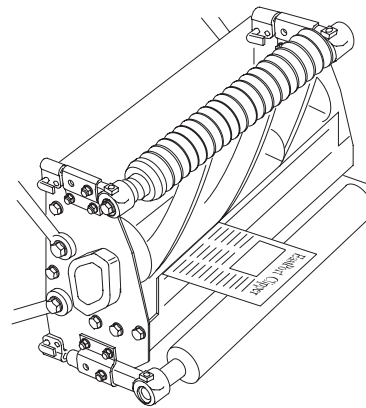

Figure 4
2. Set the cutting unit as shown in Figure 4. Do not rest the cutting unit on the bedknife adjusting knob as this will affect the reel to bedknife clearance. Place a block of wood under the round cross tube to hold the adjustment knob above the surface.
4. Insert a long strip of dry newspaper between the reel and bedknife (Fig. 4) at either end of the bedknife, and rotate the reel by hand. The paper should be cleanly cut. Repeat this procedure at other end of the reel. If the paper does not cut cleanly, tighten the bedknife adjustment knob a maximum of two clicks and check to see if paper is cut cleanly. If it is not, proceed to the next step.